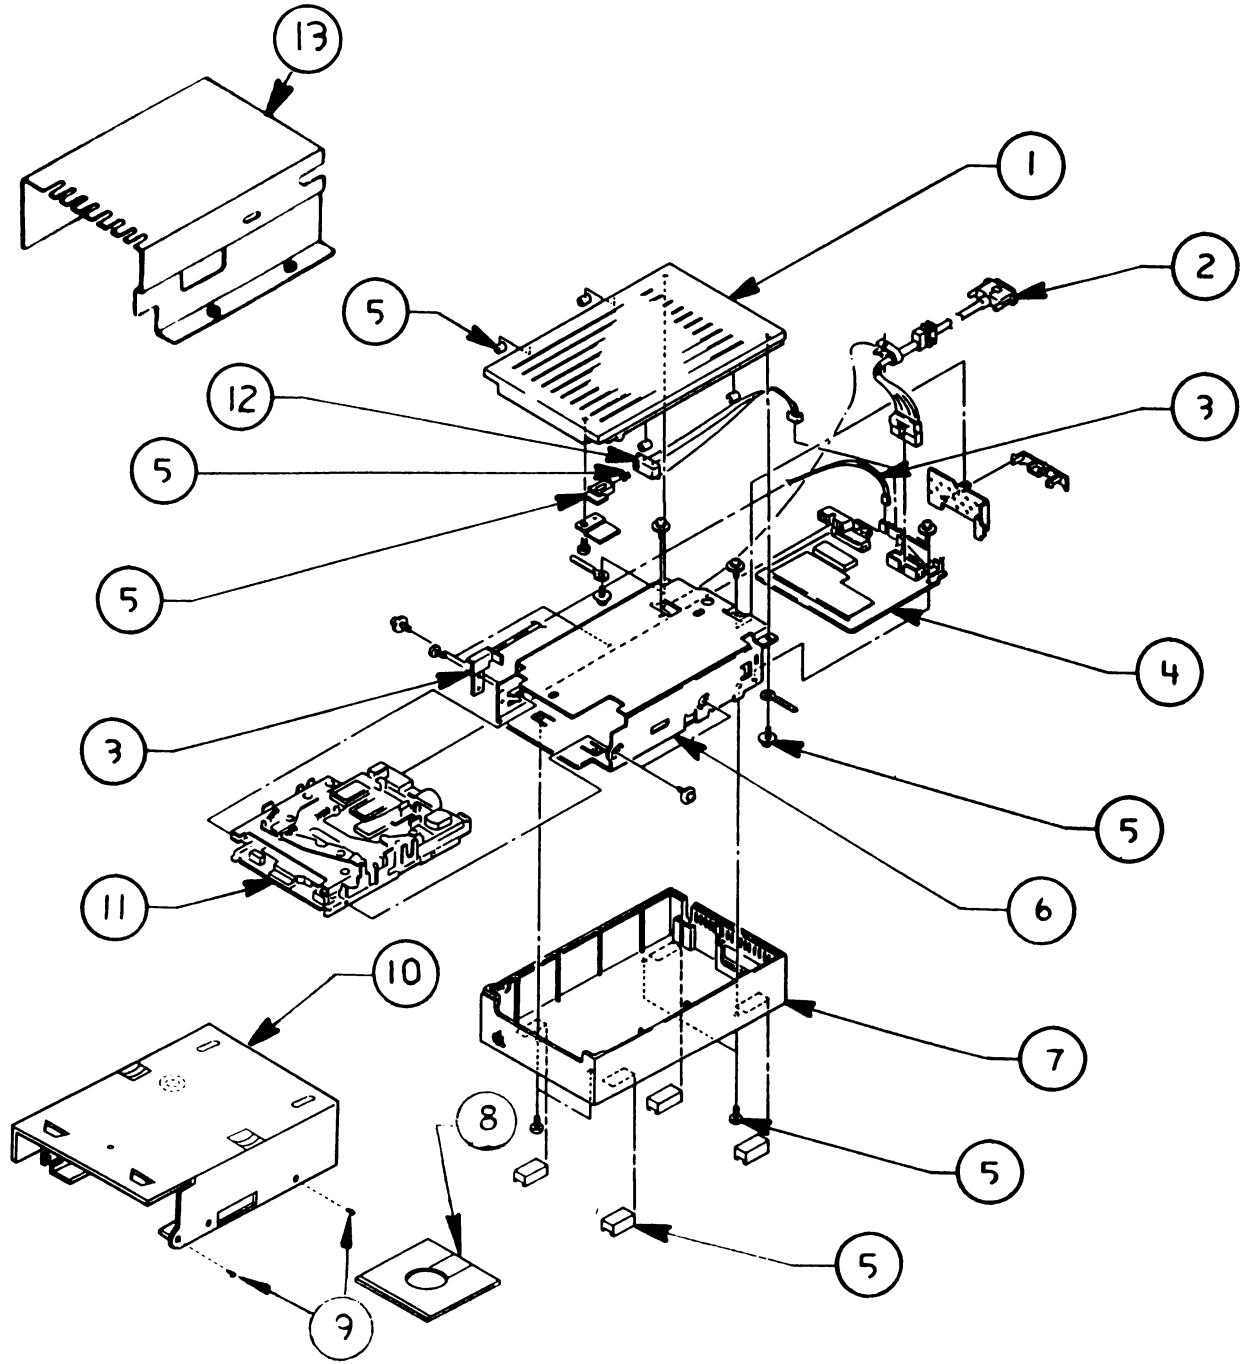

FIGURE 1
- IPL.3 Exploded View (Figure 1)
□ EXPLODED VIEW (Figure 1)